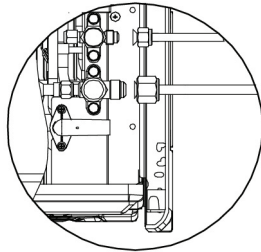

Fig. 22
- (1) Remove pipe cover and pipe plug.
- (2) Direct the flared part of copper pipe to the center of screwed joint. Twist on the flared nut tightly by hand, as in Fig.22 (Make sure indoor pipe is correctly connected. Improper location of the center will prevent flared nut from being securely twisted. Thread of nut will get damaged if the flared nut is twisted forcibly).